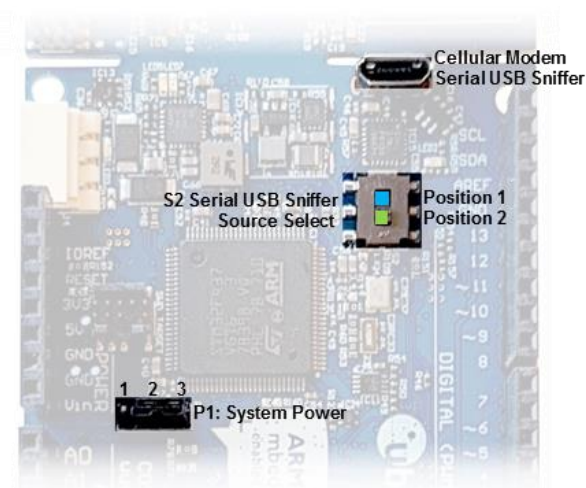

Figure 4: C030-R412M jumper and switches
Figure 4 shows the C030-R412M P1 and P3 jumpers and S2 switch positions.
- Enhanced COM port as on the development PC. Two operation modes can be selected by using S2 switch (see Figure 4):